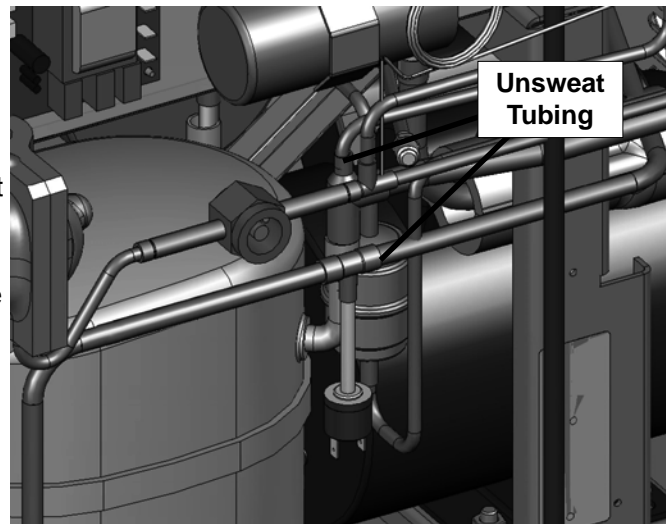

Figure 5-4 Compressor Removal - F112-LJ
- E. Remove the insulation around the tubing on the suction line going to the compressor and unsweat the suction line from the compressor. (Fig. 5-4)